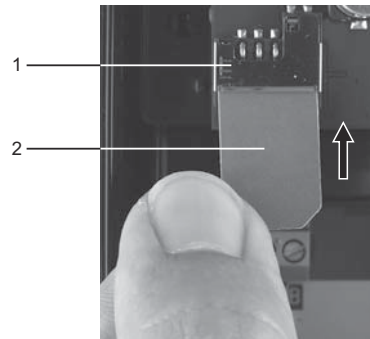

Fig. 4 Inserting the SIM card
3. Insert the SIM card into the CIM 260 or CIM 280. See fig. 4.
The slanted edge of the SIM card must point downwards. See fig. 4.